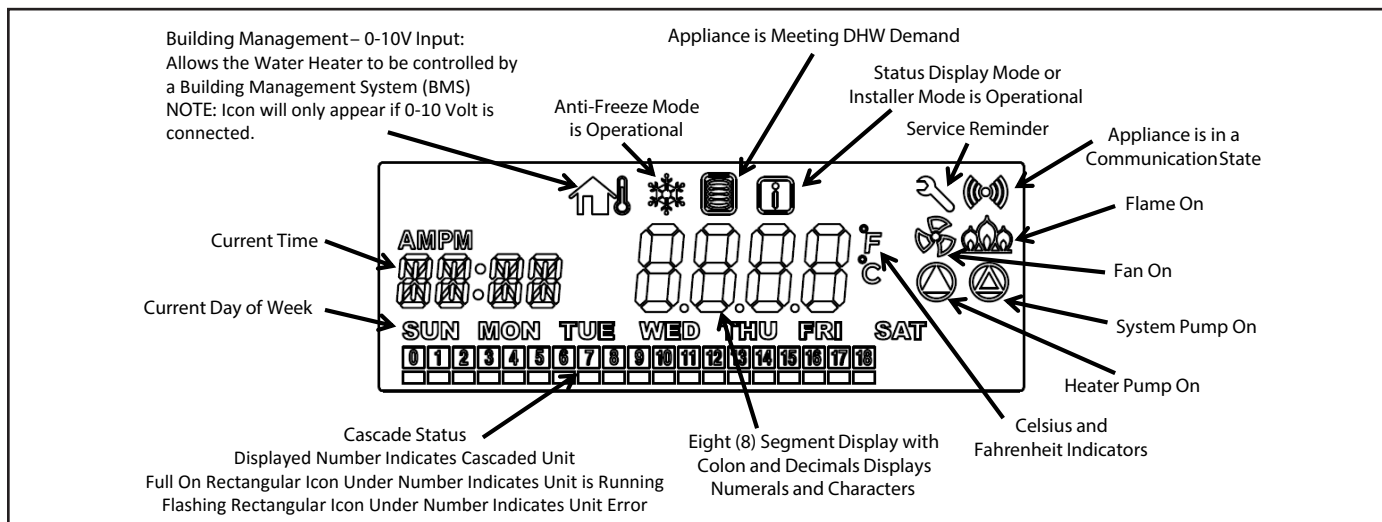

Figure 40 - LCD Display
- 4. The National Fuel Gas Code (NFPA 54) requires that a sediment trap (drip leg) be installed in the gas line on appliances not so equipped. The drip leg must be accessible, a minimum of 3" in length, and not subject to freezing conditions. See Figure 40.
- 5. A manual gas shut-off valve should be installed in the gas supply line close to the water heater. See Figure 40 for detail.